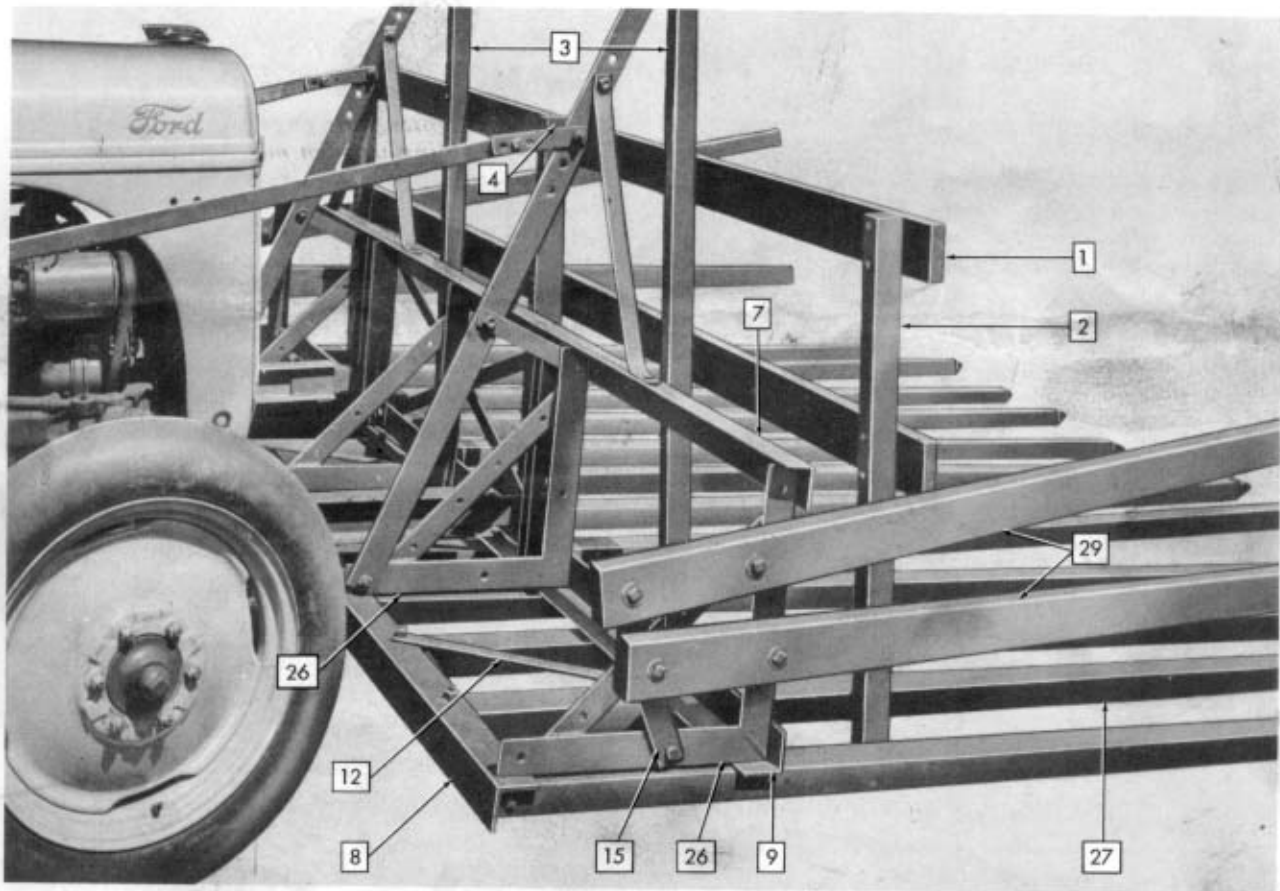

Figure 3
**Step 3:** Lay the 12 long wooden teeth (27) out on level ground or floor with points forward and long tongue of tooth facing down.
**Step 5:** Place bottom rear angle (8) on teeth with bolts protruding through holes, rear flange of angle pointing downward. Figure 3.
**Step 6:** Place bottom front angle (9) on teeth with angle flange up and facing forward. Bolts protrude through holes. Figure 3.
**Step 7:** Place the four diagonal short cross braces (12) in position between bottom cross angle (8) and bottom front cross angle (9). See Figure 3.
**Step 8:** Place the five steel triangles (26): one on each outside long tooth (27), one over each 4th tooth and one in dead center between 6th and 7th teeth. Each angle placed
in an upright position with 90° angle in bottom front cross angle (9). See Figure 3.
**Step 10:** Mount top cross angle (7) on steel triangle frames (26). Insert bolts, place on lock washers and nuts.
**Step 17:** Fasten lower end of steel straps (15) for the short teeth to exterior of outside steel triangles. Figure 3.
**Step 18:** Fasten the four short wooden teeth (29) in position on the outside of the steel triangles. Bolts on end of these teeth go through the steel strap braces (15). Figure 3.
a. Attach short push-off uprights (2) to ends of 1 x 4 foot push-off boards (1).
b. Attach center upright (4) to push-off boards (1). Figure 3.
c. Attach long push-off uprights (3) between center upright and short push-off uprights.
**Step 20:** Fasten upper ends of long wooden push-off uprights (3) to top ends of push-off steel uprights (6). Figure 3.